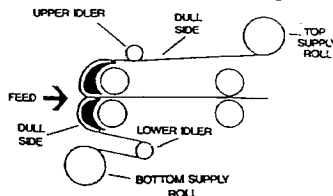

FIGURE 4.1
4. Load the supply shaft into the laminator. Pull 18" of film towards you. Thread the film back behind the idler bar and lay the loose film forward on the top of the loaded roll (See Figure 4.1).
- CAUTION! Do not touch heater. (See Figure 4.1).